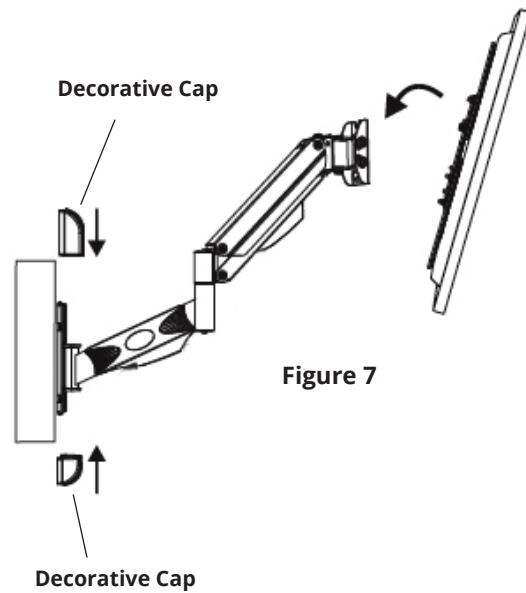

Figure 7
2. Hang the TV with VESA plate assembly onto the top of the extension arm bracket, then let the bottom of the VESA plate rotate to the bottom of the bracket, see **Figure 7**.
4. Install the Decorative Caps onto the wall bracket, see **Figure 7**.